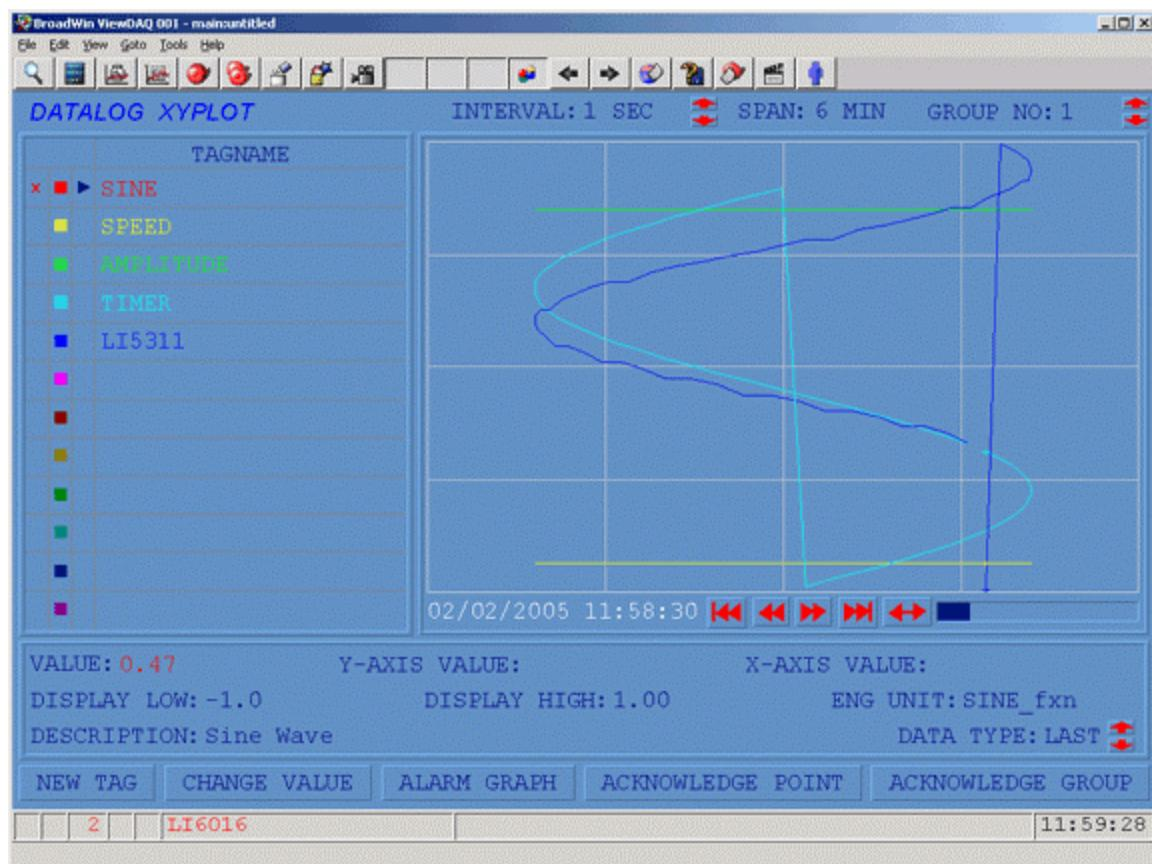

Figure 6.42 Data Log X-Y PLOT
9. An XY- Plot opens. Tags are plotted versus a selected Tag. (Figure 6.42) Any of the twelve tags can be selected as the X-axis; the other 11 tags are plotted on the Y-axis. Data Log Plots are commonly used to show a relationship between two tags).